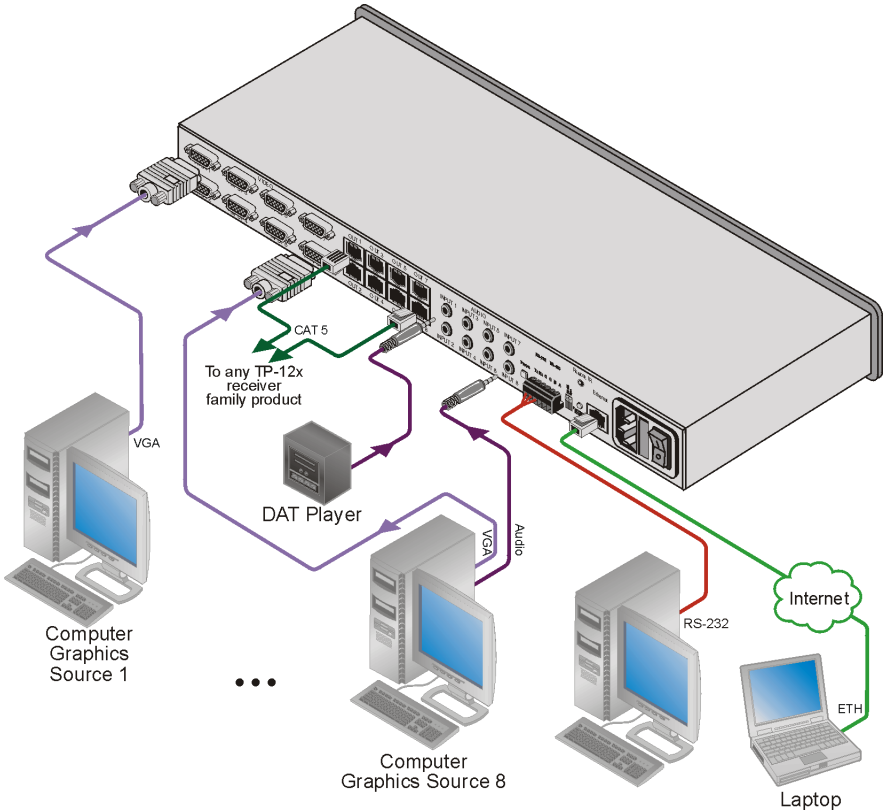

Figure 3: Connecting the VP-8x8TP 8x8 UXGA/Audio Matrix Switcher
**To connect1 the VP-8x8TP, as illustrated in the example2 in Figure 3:**
5. Connect the power cord3 (not shown in Figure 3).